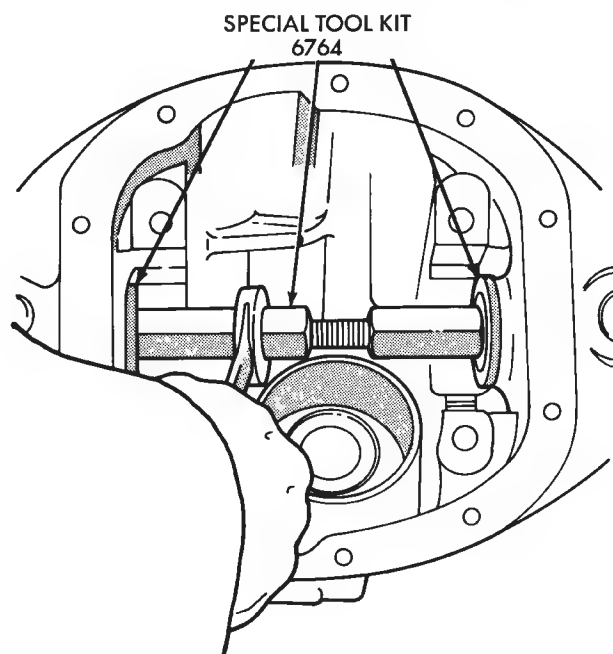

Fig. 25 Axle Seal Installation
- (1) Remove the inner axle shaft seals with a pry bay.
- (2) Install oil seals with Discs 6764 and Turnbuckle D-112-A (Fig. 25). Tighten tool until disc bottoms in housing.